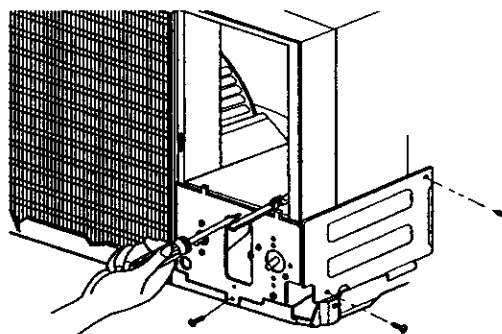

Figure 43
8. Re-install the components by referring to the removal procedure, above. (See Figure 43)